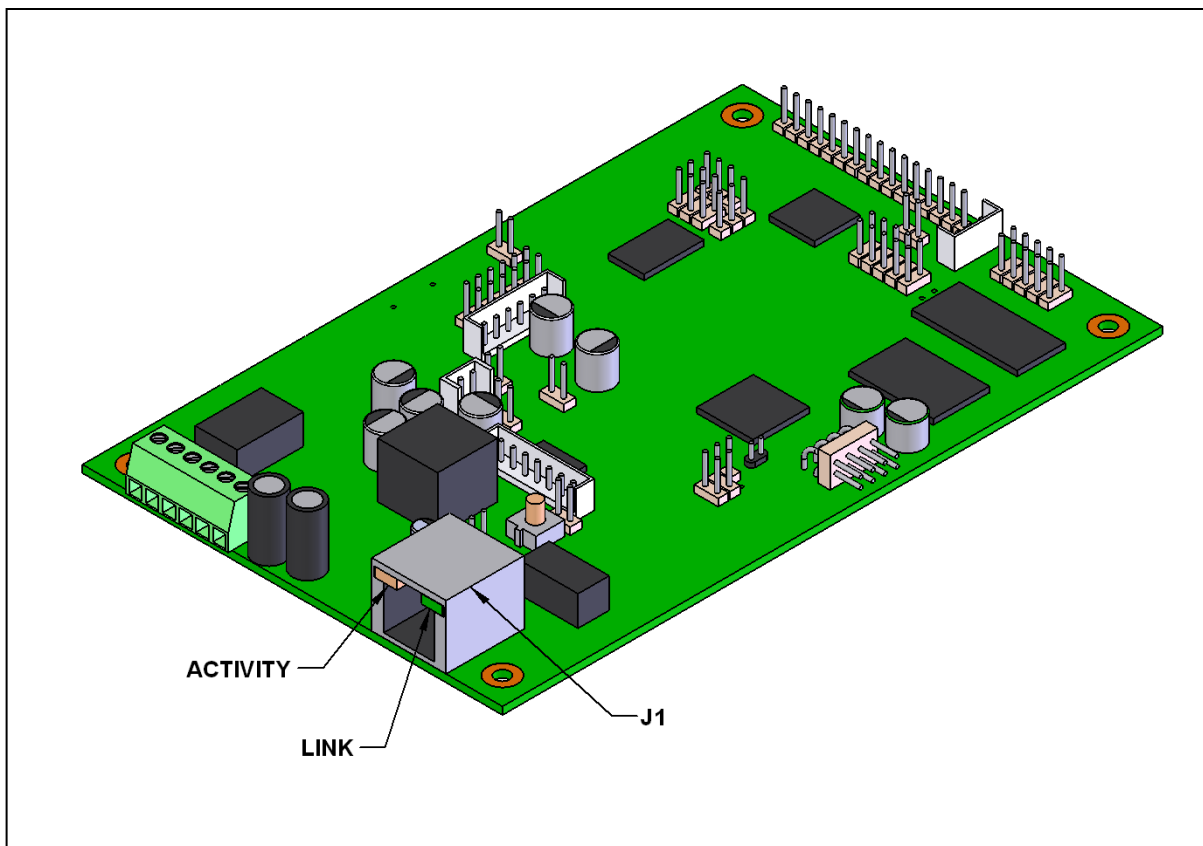

Figure 10 - Network Activity
- The square, green **Link** light above the Ethernet port indicates that the network connection has been established (see Figure 10). The Link light changes color to confirm the auto-negotiated baud rate: